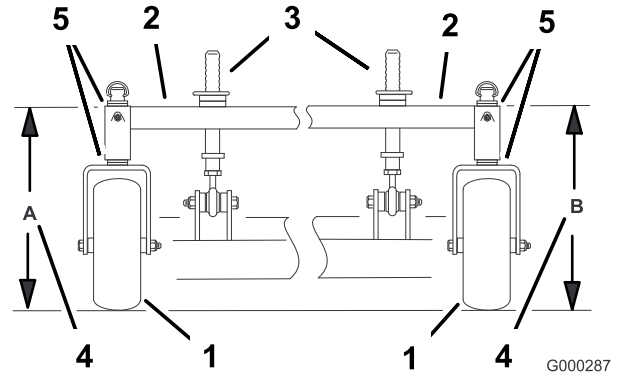

Figure 55
5. Measure the carrier-frame height at location B (Figure 55).
4. Measure the carrier-frame height at location A (Figure 55).